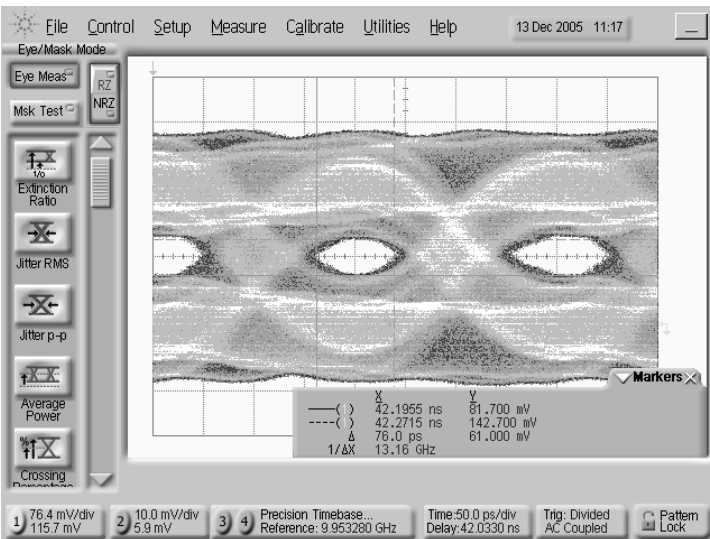
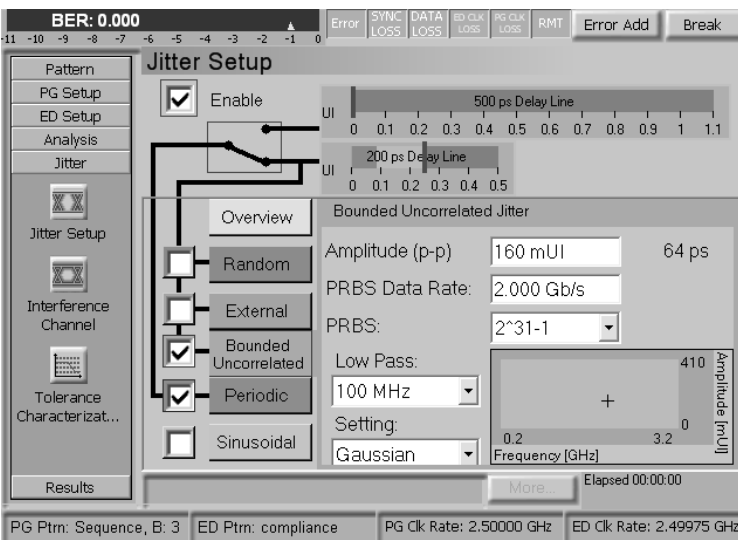

Figure 16: Scope Shot (single ended) BUJ/PJ modulated waveform with Common Mode noise of 150 mV
Figure 17: Jitter Setup of J-BERT for Compliance Eye
To add common mode noise the data signal is fed through the ISI/SI plug-in with the shortest ISI path enabled. This provides filtering of the steep edges to more sinusoidal behavior. Common mode noise of 150 mV at 2.5 GHz and bounded uncorrelated jitter (BUJ) of .16 UI is added. Then with periodic jitter (PJ) the eye is closed to .6 UI. Finally the generator's amplitude is adjusted for a vertical opening of 120 mV of the differential amplitude, as shown in figure 16. The amplitude of the single ended signal is 60 mV. The setup of jitter mix is shown in figure 17.